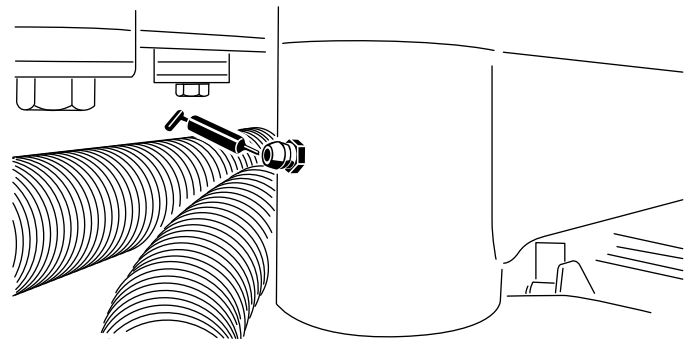

Figure 38
- Steering gears (2) (under the skirt below the steering sector) and the steering shaft (2) (Figure 38)